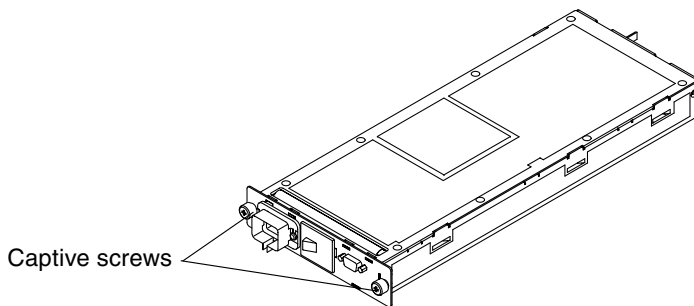

FIGURE 4-13 Two Captive Screws on the AC Input Box—Sun Fire 6800 System
4. Loosen the two captive screws on the AC input box (FIGURE 4-13).